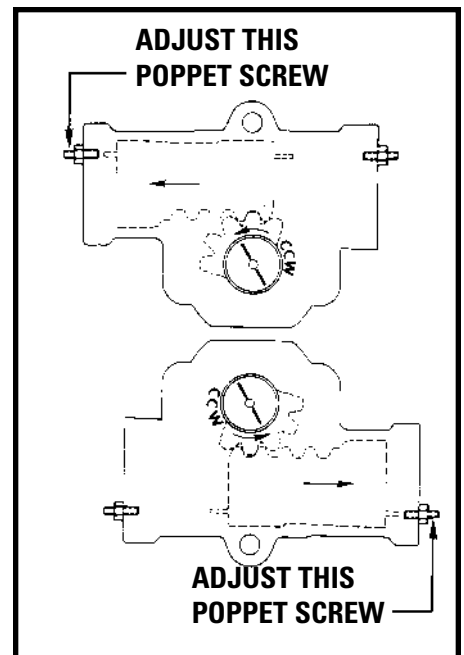

Figure 34
- 4.3 With the engine at idle, have someone turn the steering wheel to full lock (axle against axle stop), while you observe the rotation of the sector shaft (50) SEE FIGURE 34. If the sector shaft rotates counter-clockwise as shown, adjust the poppet adjusting screw identified in FIGURE 34. If the sector shaft rotates clockwise, adjust the other poppet adjusting screw.